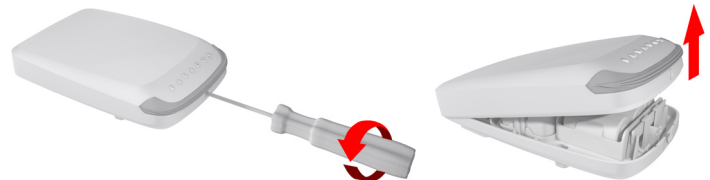

Figure 2: Removing the Top Cover
- Remove the front cover (see Figure 2).